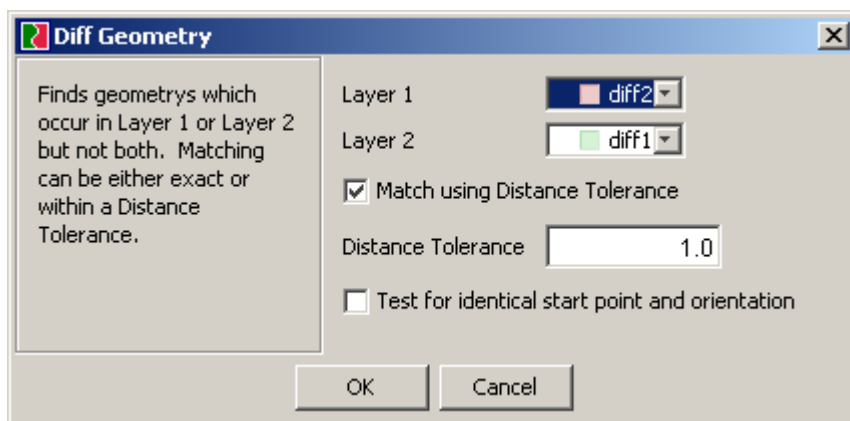

Figure 15 – Diff Geometry dialog
- In the **Diff Geometry** dialog (see Figure 15) select the layers to process.